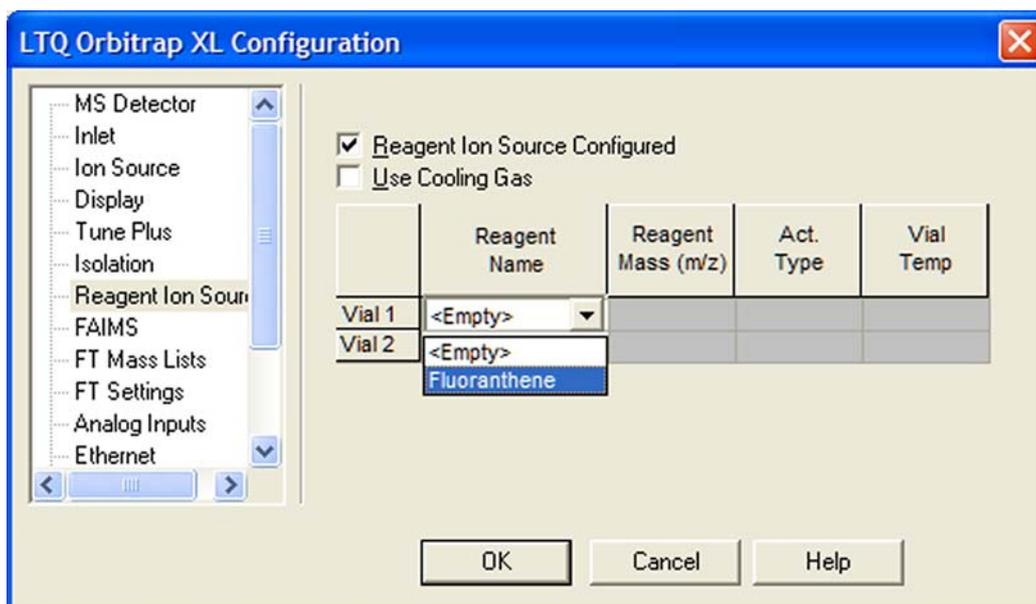

Figure 8-7. Enabling the reagent ion source
3. Click Reagent Ion Source in the left hand section of the LTQ Orbitrap XL Configuration window. The Reagent Ion Source page of the Configuration dialog box allows you to configure the reagent ion source and to activate the cooling gas. See Figure 8-7.
4. Select the Reagent Ion Source Configured check box as shown in Figure 8-7.